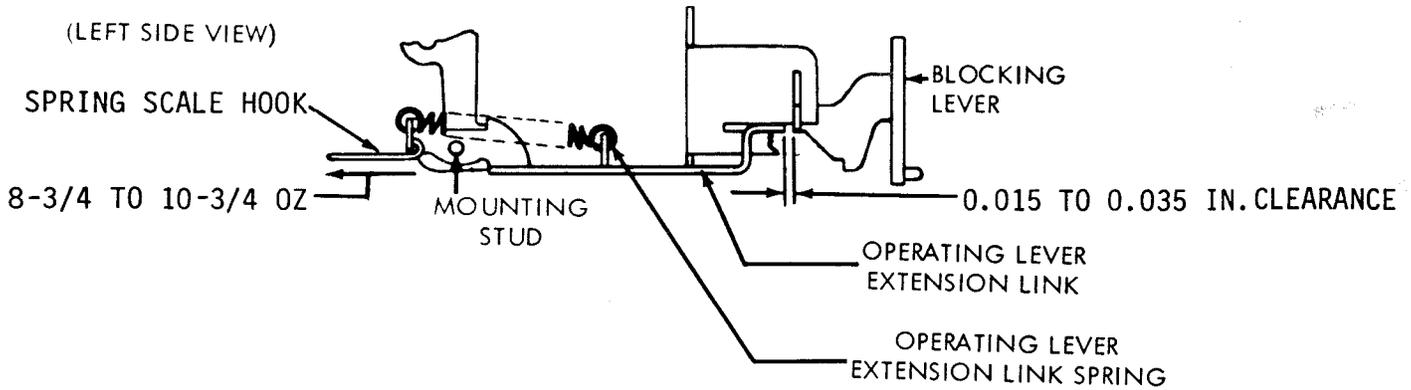

Figure 6-183. Operating Lever Extension Link and Operating Lever Extension Link Spring
(a) Refer to figure 6-183.
(16) Operating Lever Extension Link Spring. Adjust operating lever extension link spring as follows:
- (a) Refer to figure 6-183.